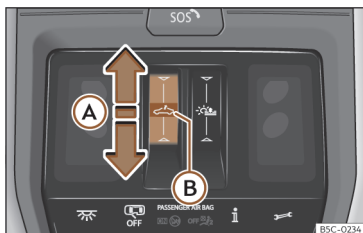

Fig. 90 On the headliner: glass roof button.
- Automatic movement: slide your finger back over the functional area  >>> **Fig. 90 (A)**.
- Before approx. 5 seconds after activation of the anti-trap function, slide your finger forward over the functional area ➡ >>> Fig. 90 (A) and keep pressed until the sunroof is fully closed.